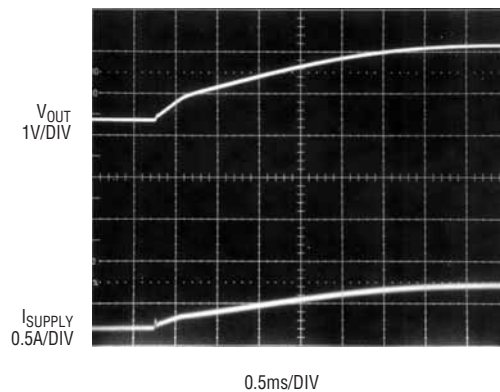
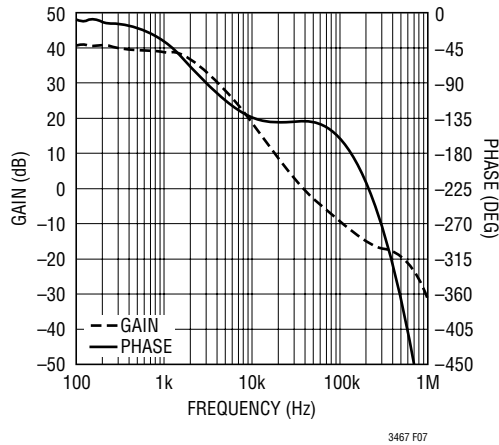

**Figure 2. Single Li-Ion Cell to 5V Boost Converter (Same as 1st Page Application)**
Figure 7. Bode Plot of 3.3V to 5V Application
**Start-Up Waveform (Figure 2 Circuit)**
**Supply Current of Figure 2 During Startup without Soft-Start Capacitor**
**Supply Current of Figure 2 During Startup with 47nF Soft-Start Capacitor**
A phase lead zero can be intentionally introduced by placing a capacitor (C4) in parallel with the resistor (R1) between VOUT and VFB as shown in Figure 2. The frequency of the zero is determined by the following equation.
To set the output voltage, select the values of R1 and R2 (see Figure 2) according to the following equation.
Using the circuit of Figure 2 as an example, the following table shows the parameters used to generate the Bode plot shown in Figure 7.
From Figure 7, the phase is  $-138^\circ$  when the gain reaches 0dB giving a phase margin of  $42^\circ$ . This is more than adequate. The crossover frequency is 37kHz.